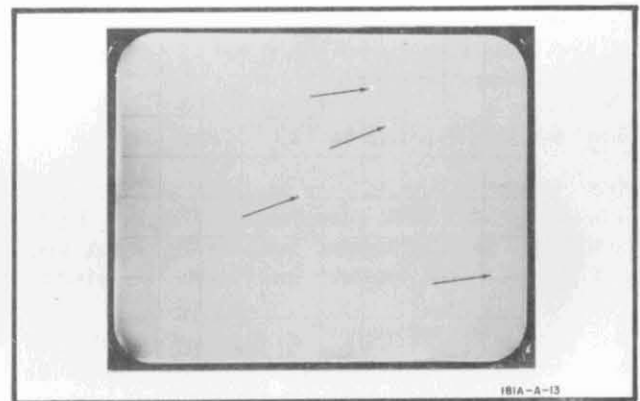

Figure 5-4. Brilliant Spots in CRT Display
- m. Press ERASE pushbutton. Display shall be dark, except for possible few small brilliant spots (figure 5-4).